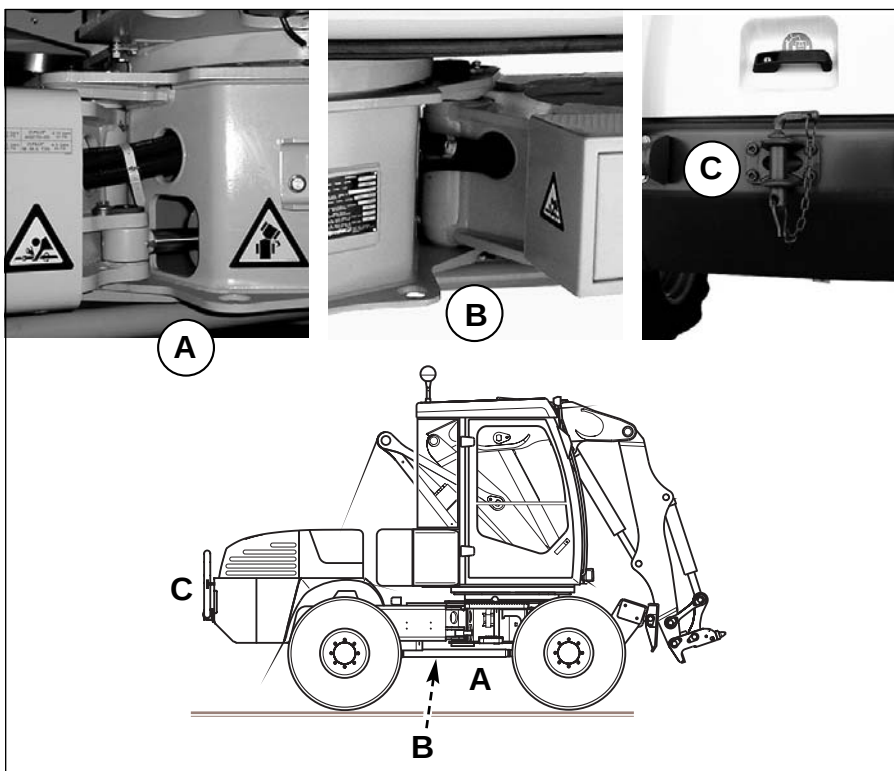

Fig. 3
- Fastening points: (A-B-C fig. 3).